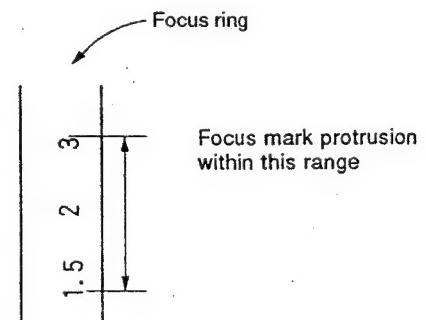
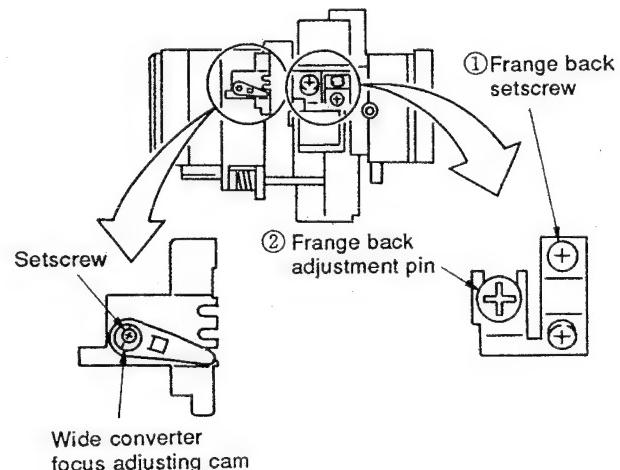

Fig. 4-11.
Fig. 4-12.
- 7) Loosen flange back setscrew ① with a Phillips screwdriver. (See Fig. 4-12.)
- 8) By turning the flange back adjustment Pin ② while watching the monitor screen, attain the optimum definition of a wedge at the Siemens star center on the screen. (Turn it a few times to the left and right to ensure optimum definition.)
- 9) While holding the flange back adjusting Pin ② to prevent further rotation, retighten the flange back setscrew ①.
- 10) With the zoom ring fixed at its WIDE end, turn the focusing ring and set it to the position that provides the optimum definition image of the wedge. Check to assure the focusing mark protrusion position is within the range shown in Fig. 4-11. Also, rotate the focusing ring to the close (1.1 m) and far (∞) extremes and confirm that the wedge is no longer in focus.